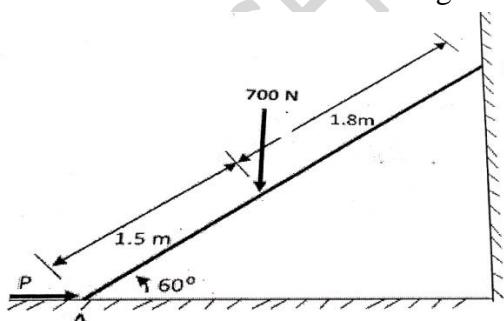

Fig 7
c) Find the minimum horizontal force 'P' required to stop the ladder shown in fig 7, when a man weighing 700N moves up the ladder for a distance of 1.5m along the ladder. Coefficient of friction between the floor and ladder is 0.2 and between the wall and ladder is 0.25. Assume weight of ladder as 200N. **08**